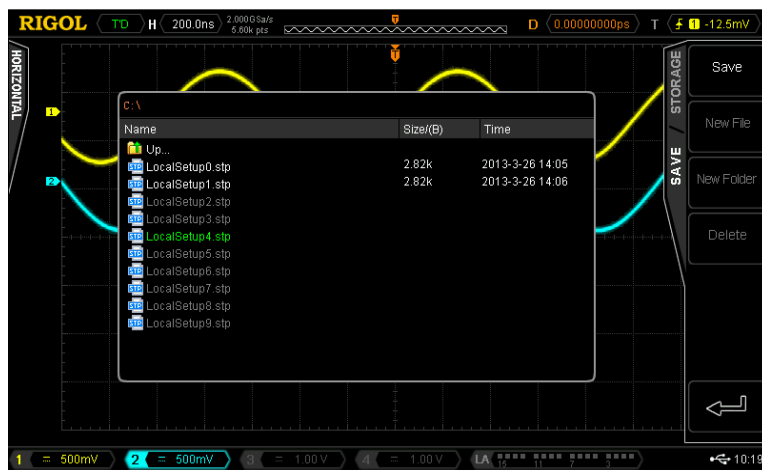

Figure 13-1 Local Disk (Storage)
- 3) Press **Save** to turn on the disk management interface. Turn the multi-function knob  to select “Local Disk” (the characters turn green) and press down the knob to open the local disk storage interface (as shown in Figure 13-1).